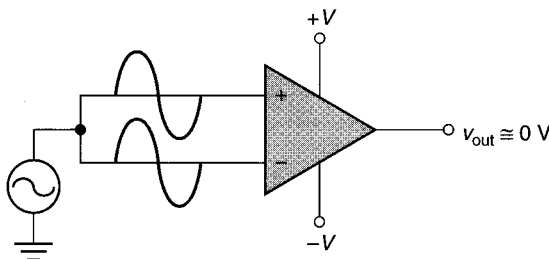

FIGURE 15.22 Common-mode signals.
**Common-mode signals** are *identical signals that are applied simultaneously to the two inputs of an op-amp*. For example, the two signals shown in Figure 15.22 are common-mode signals.
Figure 15.22 has a differential voltage gain of 1500. Let's also assume that the op-amp has a common-mode voltage gain of 0.01. The common-mode rejection ratio for the op-amp would be found as